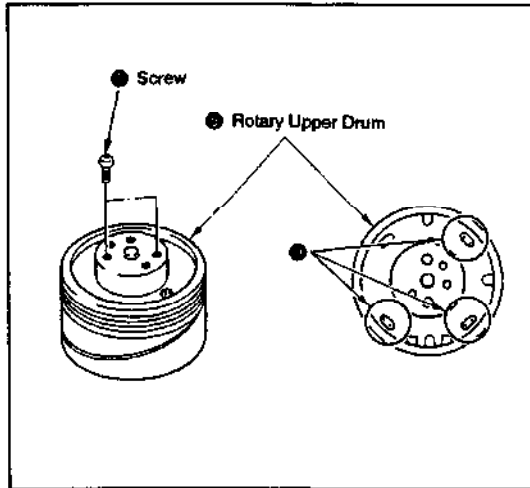
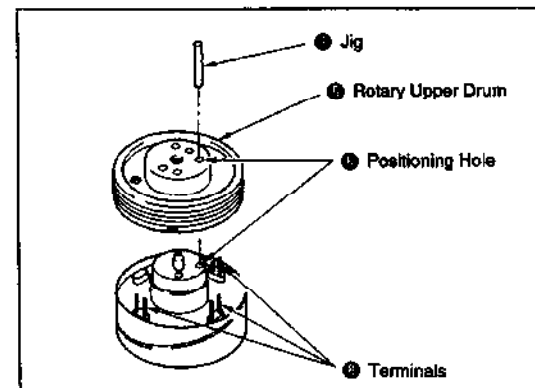

Fig. 3-22.
Fig. 3-24.
- 1) Detach the six solderings ①, then use a pair of tweezers or the like to confirm that the terminals passing through the board holes from below can move freely.
- 2) Remove the two screws ② (See Fig. 3-22).
- 1) Wipe clean the flange surface and the rotary upper drum ⑥ surface that makes contact with it, and confirm that they are free from dirt and scratches.
- 2) Insert the jig ③ (Ref. No. J-7) into the drum positioning hole, then set the rotary upper drum ⑥ by passing the jig through its positioning hole ⑦.
Note: Confirm that the terminals ⑧ protrude slightly from the rotary upper drum board holes (See Fig. 3-24).
- 3) Remove the jig ③ and push down the rotary upper drum ⑥ gently by hand. If it does not go all the way down, secure it temporarily by tightening the two hexagon socket screws ⑤ alternately.
- 4) Insert the jig ③ into the positioning hole ⑦ again and confirm that it goes in smoothly. If it does not, loosen the two screws ⑤, repeat step 3 of the Removal paragraph and restart the setting procedure.
- 5) Tighten the screws ④.
- 6) Solder the terminals ⑧ (< ⑨ in Fig. 3-22).